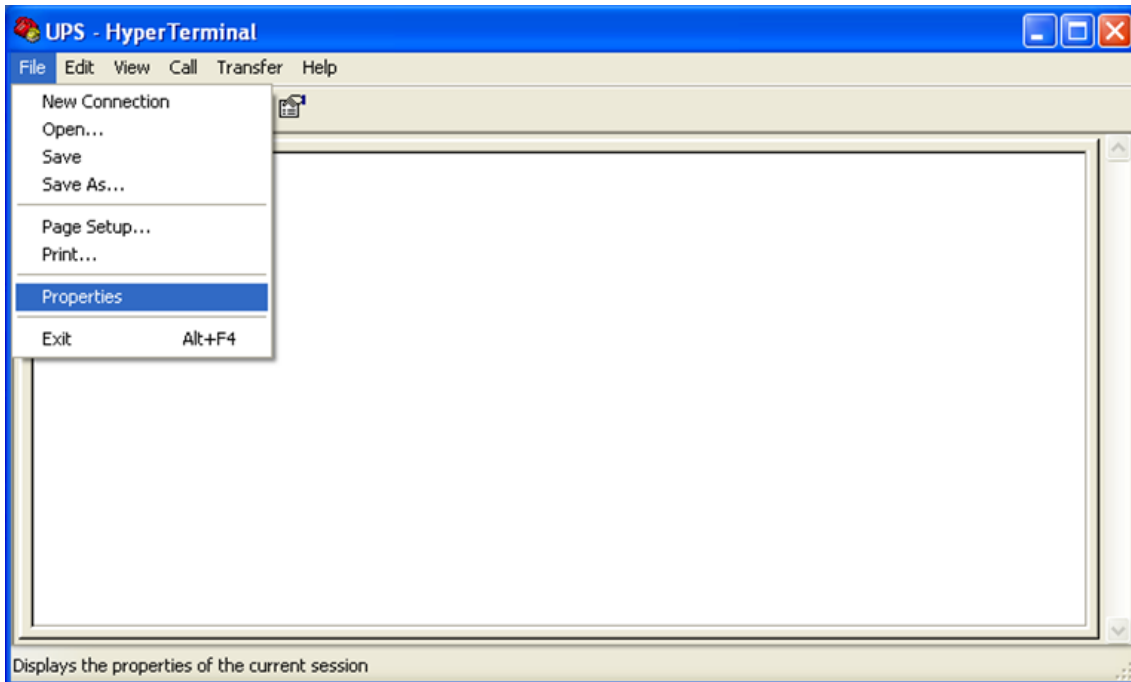

Figure 16: HyperTerminal Screen
Step 5: A blank window with the entered file name will pop up. Refer to Figure16. In the File menu, select Properties and Click.